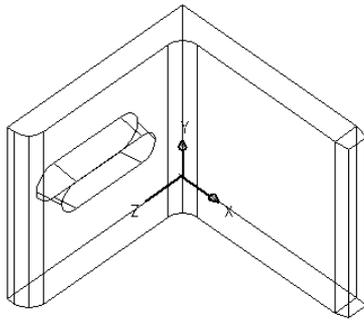

Figure 24-43: The edited mounting angle.
17. Save your drawing. It should look like Figure 24-43.